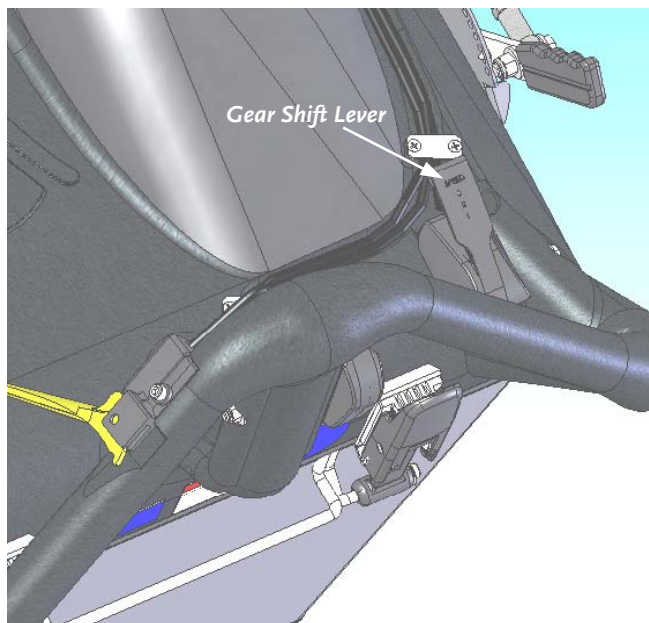

Figure 15
1. Move the Gear Shift Lever (**Figure 15**) to the desired speed position (1, 2, or 3, see page 2).